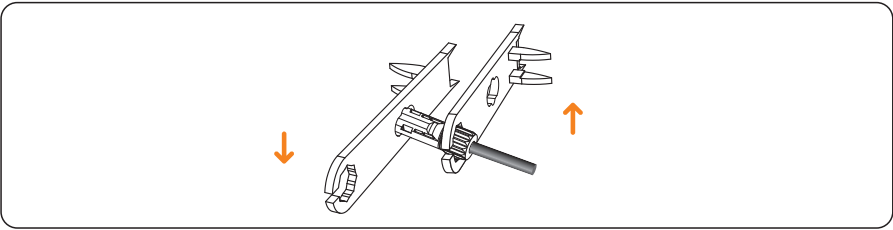

Figure 5.13 Locking connectors
**Step 4** Tighten the locking nuts on the positive and negative connectors using a removal wrench, as shown in Figure 5.13.